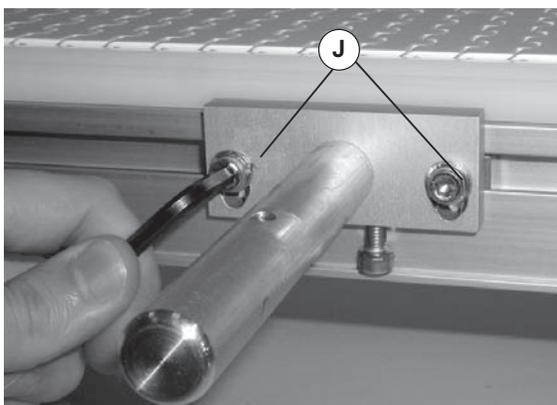

Figure 7
6. Once support bars are spaced evenly, tighten screws (Figure 7, item J) snugly with 5 mm hex wrench.